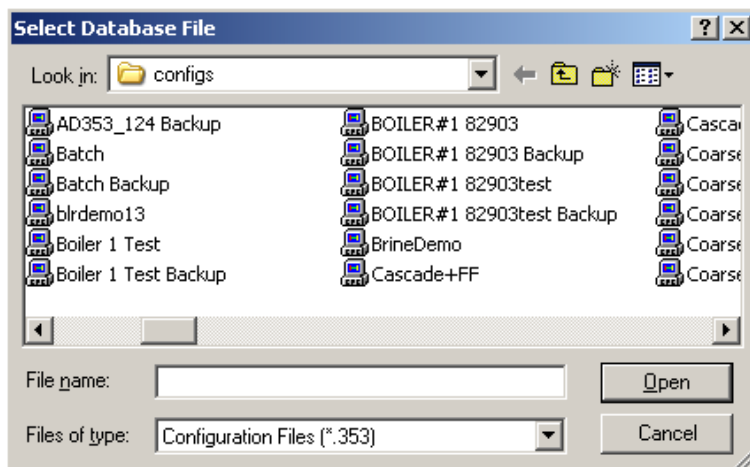

Figure 7-4 Select Database File dialog
1. Select **File > Open** or press **<Ctrl+O>**. The Select Database File dialog displays for opening a configuration. See Figure 7-4.